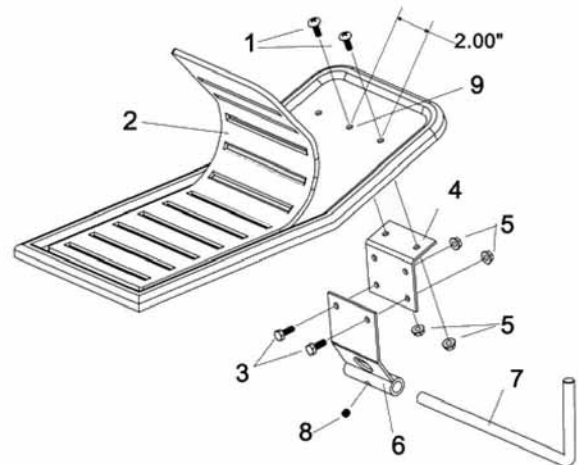
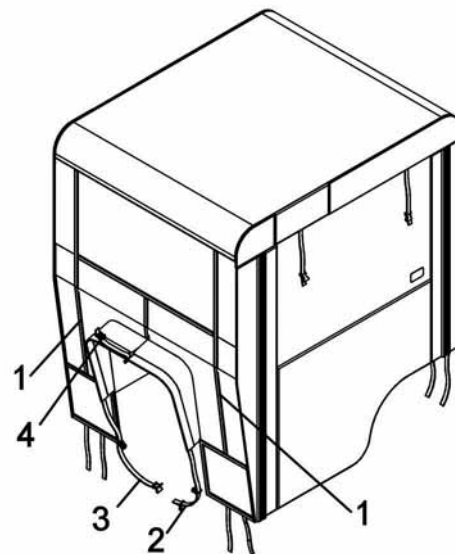

Figure 3
Figure 5
When the location has been determined, drill two 9/32" holes in each footrest. If needed, unclip and lift the rubber pads from the footrests. Install the front attaching plates (fig.3, item 4) under the footrests using two 1/4 x 3/4" machine screws (item 1) and flange nuts (item 5). Tighten firmly.
Install the front posts (fig.5, item 2) the bent part towards the front and the back posts (item 1) as shown.
Attach the straps to the supports (fig.3, item 6) by inserting the buckles (fig.5, items 2 & 3) through the holes on the supports then snapping one end into the other.